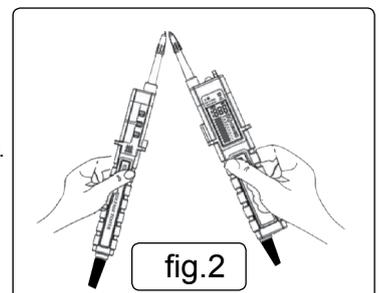

fig.2
- 4.1.1. Press the "ON/ OFF" button on the main probe first and then on the second probe, short the two metal probes (fig.2). The power will automatically turn on, and the equipment start a self-diagnostic test.